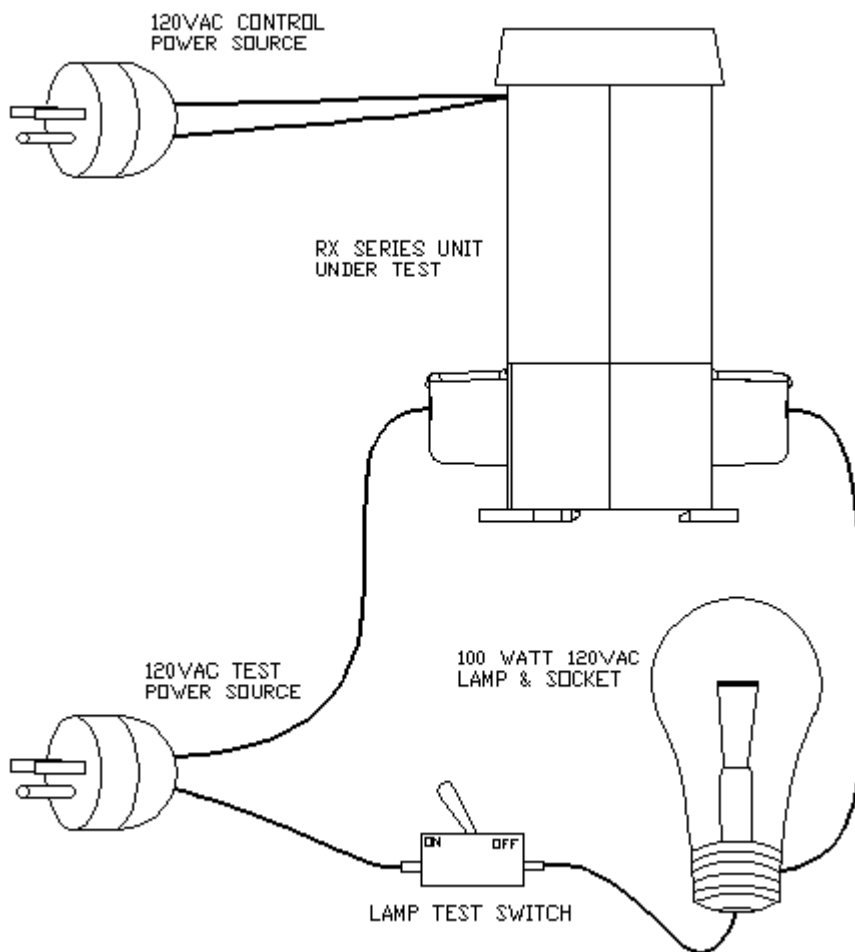

Figure C.1
- Connect a 120V / 100W light bulb in series with an ON/OFF switch through the A-phase busbar of the RX to the 120VAC. (Refer to Figure C.1)